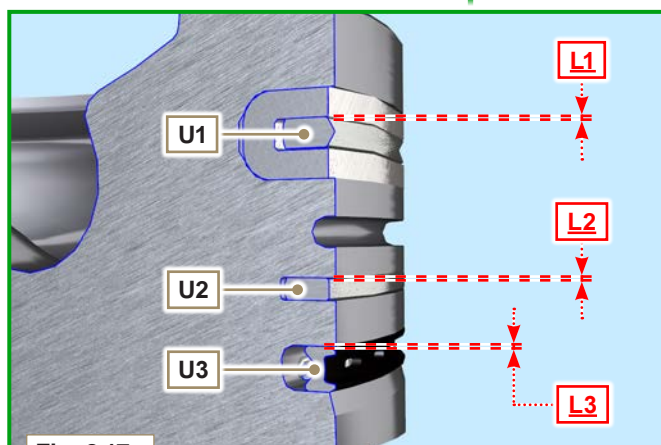

Fig. 8.17
**NOTE:** refer to Fig. 8.17 to locate the rings.